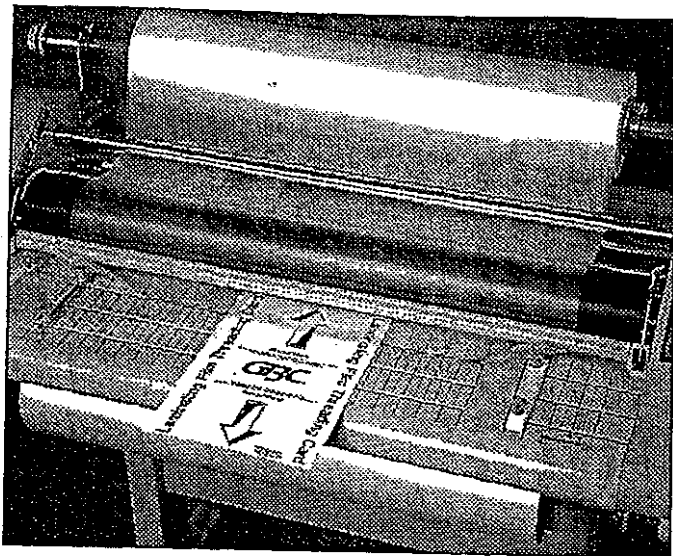

Fig. 10
12. Slide a threading card into the two overlapping films and push into the nip rollers, (Figure 10).